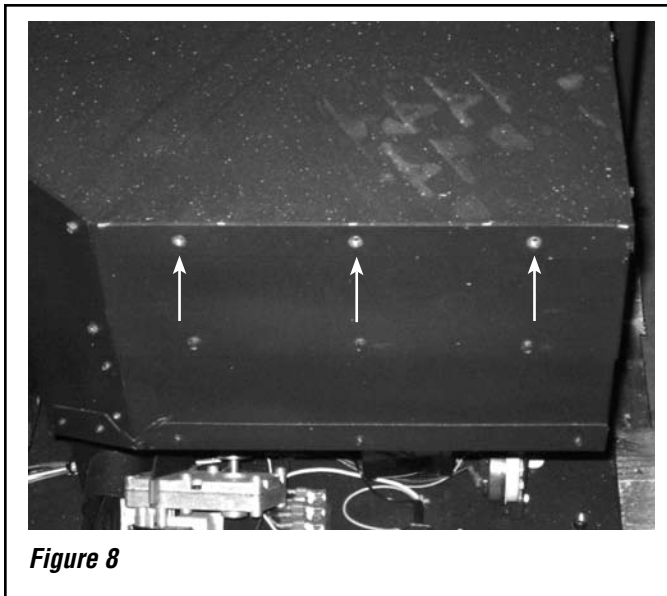

Figure 8
Step 7. Remove the 3 screws located across the top of the pellet hopper (see **Figure 8**).